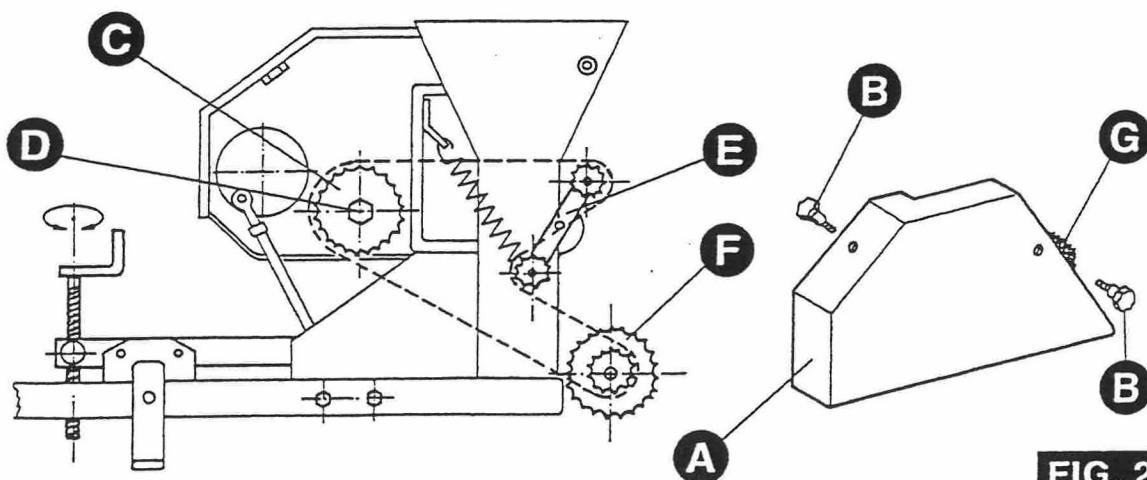

FIG. 20
To change the standard gears (Fig. 20.G) and obtain the distances indicated, **observe the safety regulations**, and proceed as follows:
- Remove the casing (fig. 20.A) by turning the knobs (fig. 20.B)
- Without opening the chain, support the tensioning device (fig. 20.E) with the chain still on it
- Move the chain to the outside of the upper gear (fig. 20.C)
- Release the chain tensioning device gradually (fig. 20.E)
- Change the upper gear (fig. 20.C) by turning the appropriate fixing nut (fig. 20.D), positioning it as shown in the table (fig. 18-19)
- Position the chain on the upper gear (fig. 20.C) making certain that it is correctly inserted on the appropriate chain tensioning device (fig. 20.E).
- Position the chain on one of the lower gears (fig. 20.F) corresponding to the required distance, shown in the diagrams (fig. 18-19).
- Align the chain tensioning device (fig. 20.E) with the lower gear used, moving it manually inwards or outwards